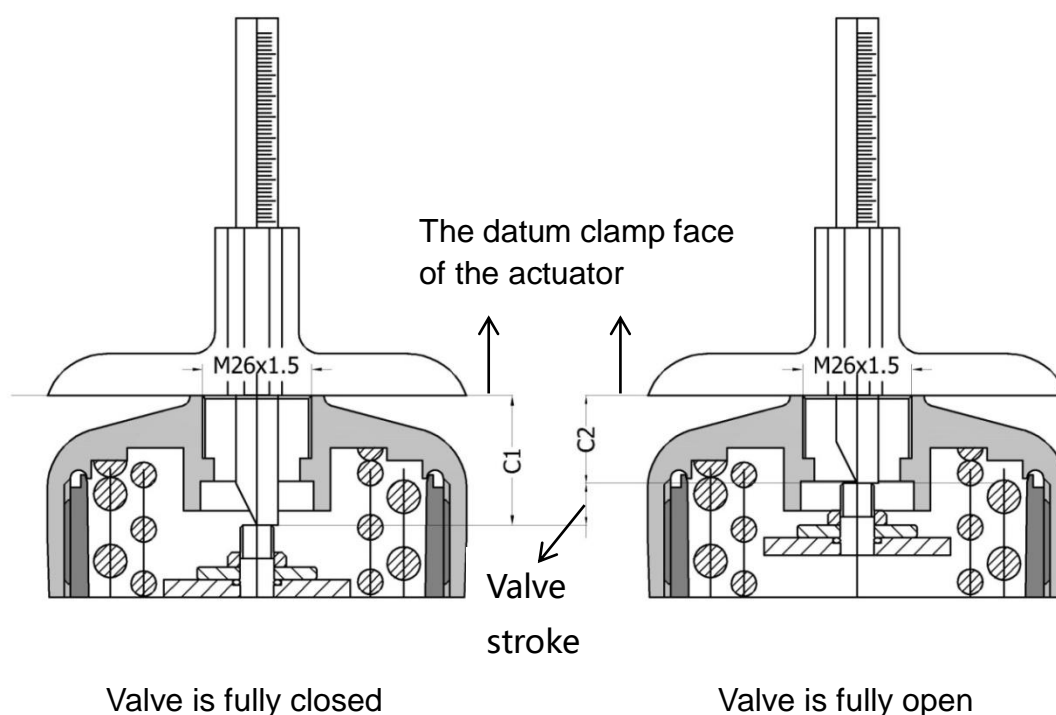

Figure 5. Actuator measurement
2. Separately measure the C1 value when the valve is fully closed and C2 value when the valve is fully open by **the depth ruler**. The values are the distance between the stem top and the datum clamp face of the actuator. As shown in Figure 5.